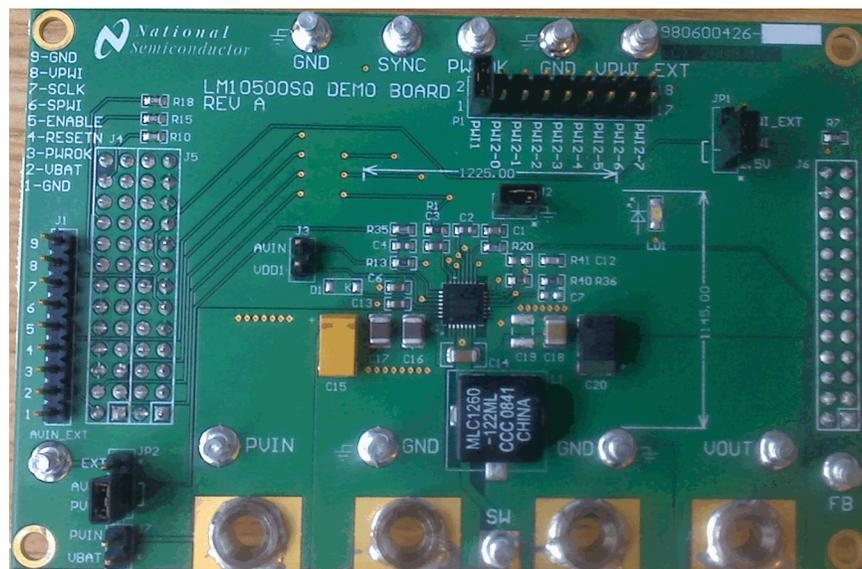

Figure 1. LM10500 Evaluation Board
- LM10500 Evaluation board, as shown in Figure 1